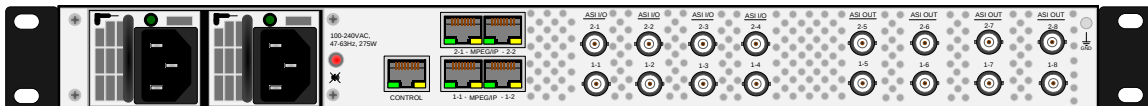

Figure 3: Dual TXS platform with ASI output option
The chassis shown in Figure 3 has dual platforms with (8) additional ASI outputs. Platform 1 is on the bottom and Platform 2 is on top. Each platform is independent from one another for stream routing. Each program needs to be routed to the correct platform to have availability for transcoding.